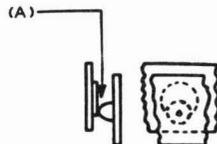

Fig. 1—Contact Alignment Showing Maximum Permissible Misalignment
- *2.03 **Contact Alignment:** Fig. 1(A)—The contacts shall line up so that the point of contact falls wholly within the boundary of the opposing contact disc at all times during contact.